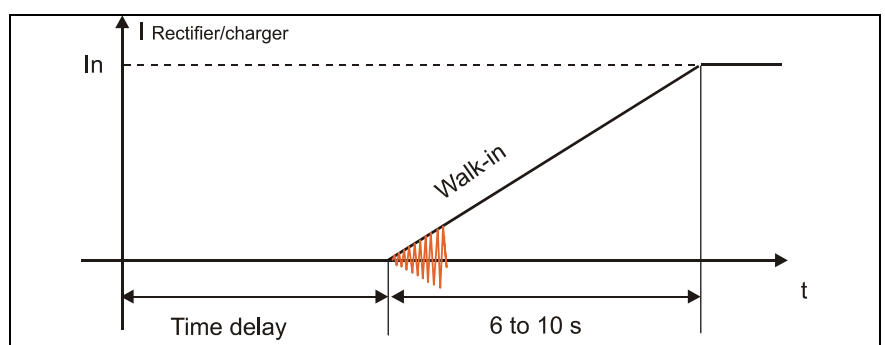

Fig. 4. UPS rectifier/charger input current during genset start-up.
- ☞ That is why high-performance UPSs have a time-delay function with a walk-in for the rectifier/charger (see fig. 4).